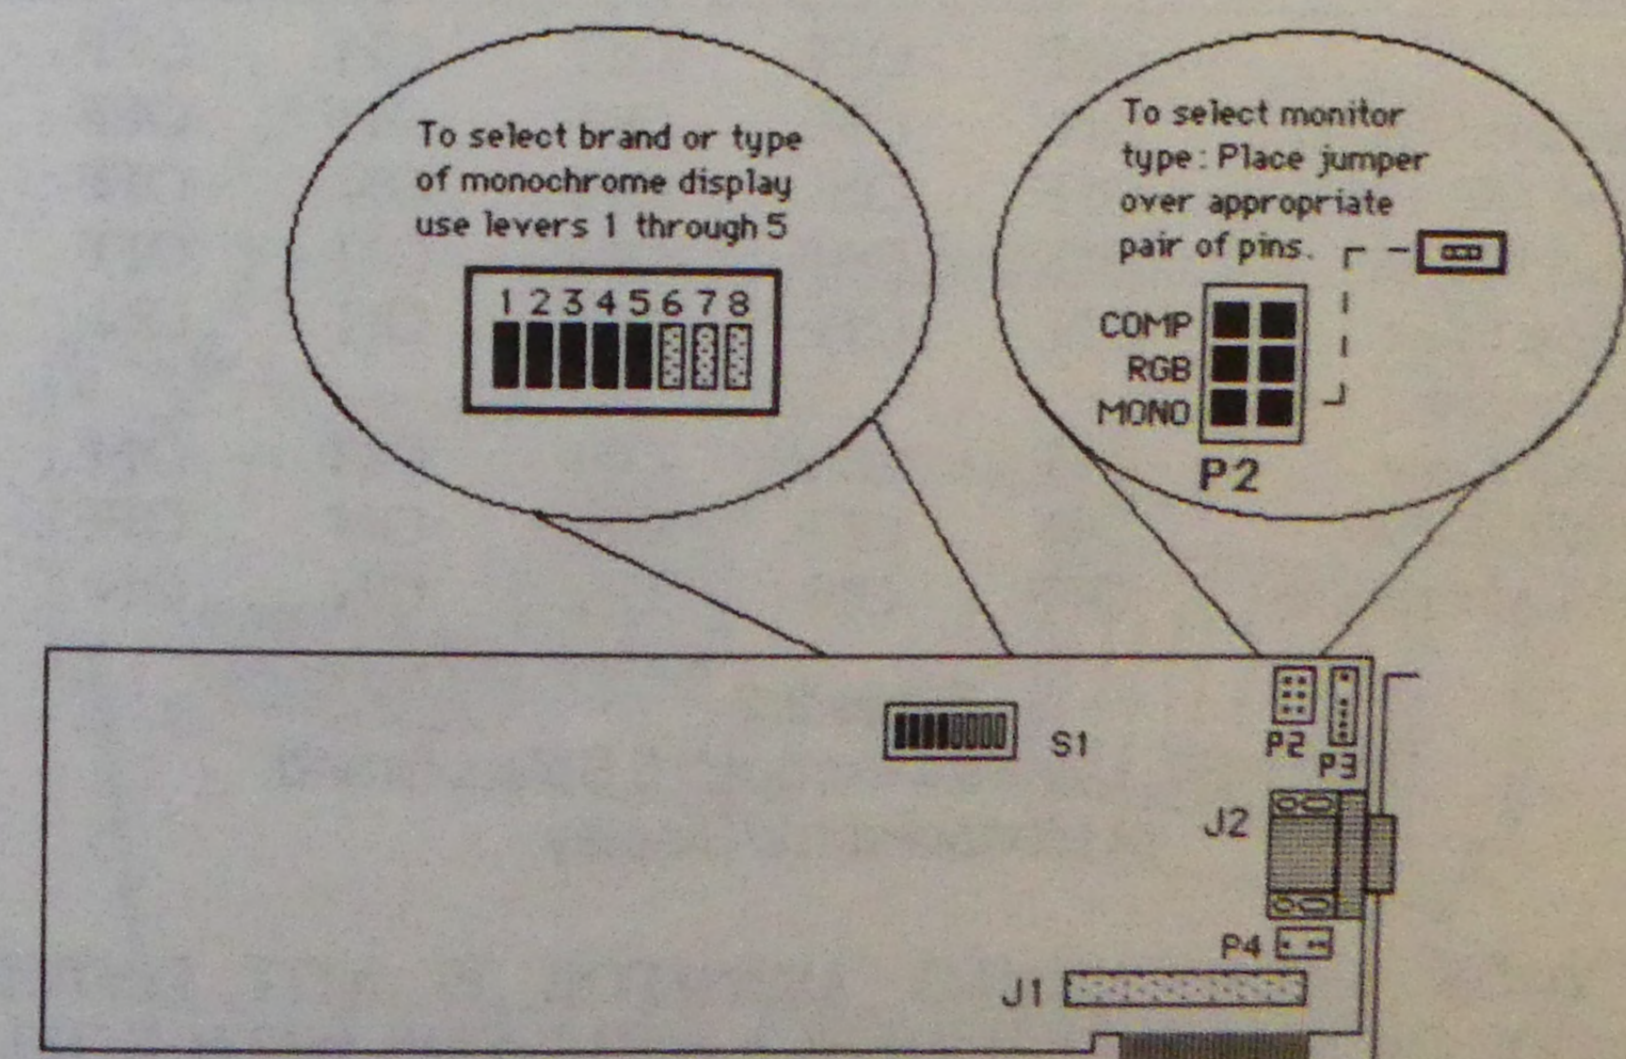

Figure 2.1
- Figure 2.1 Features and Controls of the Modular Graphics Card 5
Refer to Figure 2.1 (below), find P2, (the Monitor Select Jumper) on the Modular Graphics Card. The position of the Monitor Select Jumper determines what kind of monitor will be supported by the Modular Graphics Card. Table 2.1 (below) illustrates the proper settings of this control. The Monitor Select Jumper comes from the factory plugged into the "MONO" position.
Refer again to Figure 2.1. Find the eight lever switch, S1. Levers one through five are used to tell the Modular Graphics Card what brand of monochrome display to support if P2 (the Monitor Select Jumper) is in the "MONO" position. Levers six, seven and eight are reserved for future use and may be left in any position.